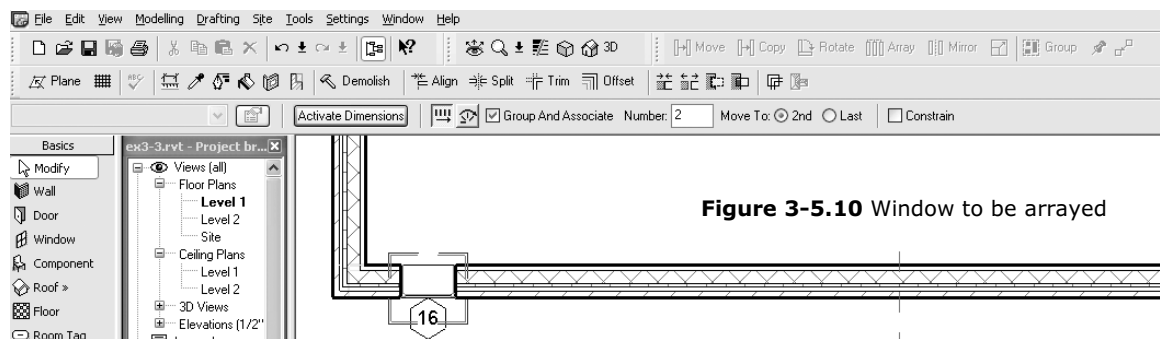

Figure 3-5.10 Window to be arrayed
19. In the *Options Bar*, type **6** for the *Number of Items* field. (Figure 3-5.10)